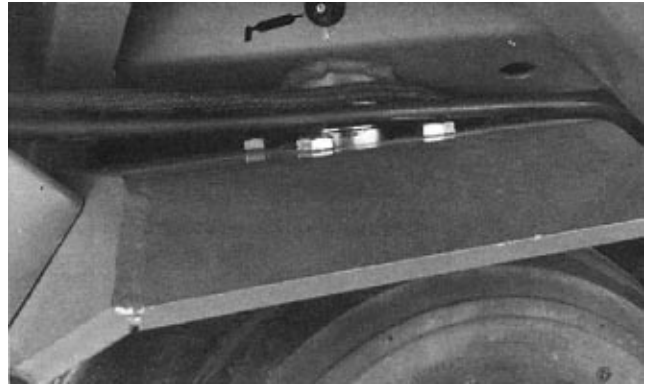

Figure 1
The bearings and bushings that must be lubricated are the steering pivot shaft (Fig. 1), limit switch housing (2) on lift arm shaft (Fig. 2) and neutral pivot shaft (Fig. 3).